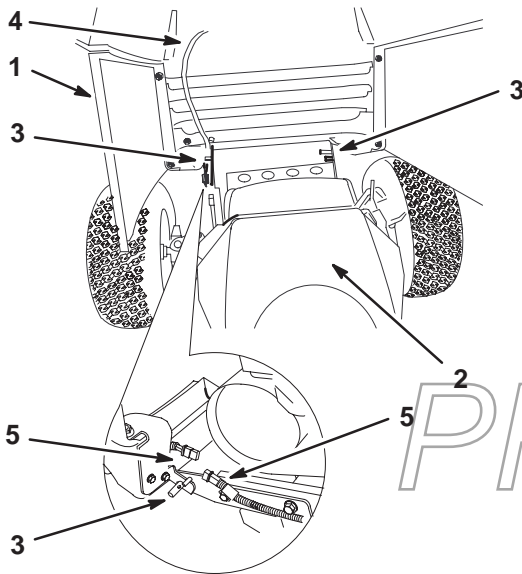

Figure 32
1. Rotate the hood fully forward (Fig. 32).
2. Disconnect the wire harness at the front left of the machine. The harness leads up the to the head lights (Fig. 32).
3. Slide the hood to the left side of the machine and off of the pivot pegs (Fig. 32).
4. To install the hood, install the hood onto the pegs and connect the harness (Fig. 32).